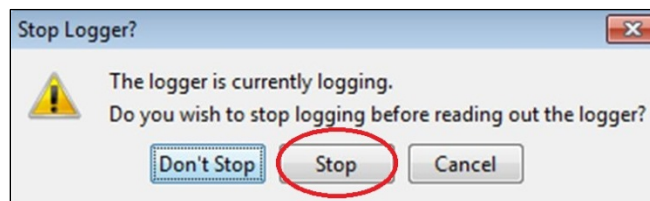

Figure B 9. Stop logger.
6. Stop the logger (Figure B 9).